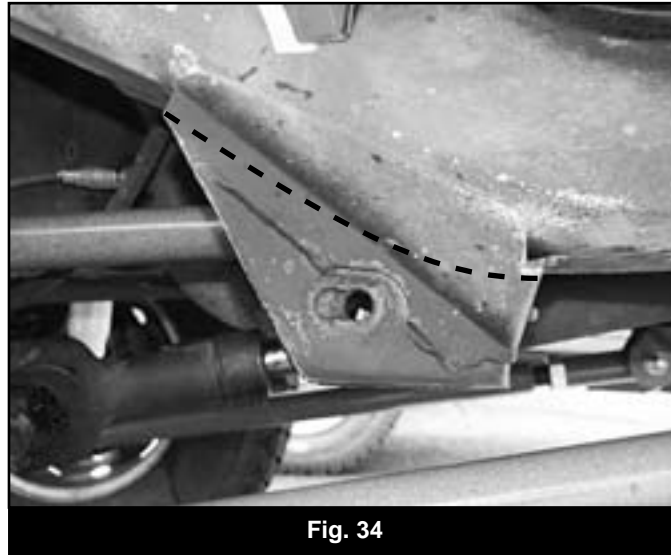

Fig. 34
97. Mark a cut line on the two lower control arm pockets that follow the contour of the frame (Fig 34). Using a reciprocating saw or cut-off wheel remove the pocket from the frame. Take care not to cut into the frame.